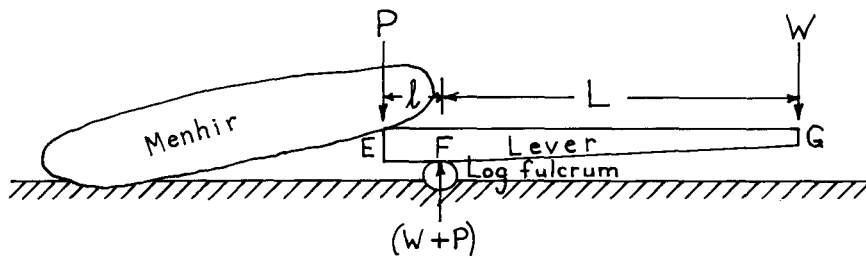
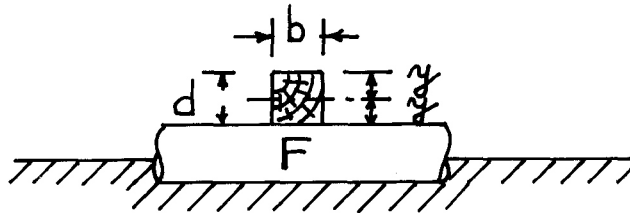

Fig. 1
Fig. 2
The stone is shown on the left of figure 1. Here the end E of the wooden lever EFG is under the end of the stone. The lever EFG rests on the fulcrum F which we assume to be a large log lying on the ground. By pressing down at G the stone end is raised, but we must estimate if the lever is strong enough. We take it to be of rectangular cross section b ft wide and d ft deep (fig. 2). The vertical force P from the stone may be greater at one end of the stone than half the weight. The greatest bending moment (M) on the lever is $P \times l$, where l is the length projecting beyond the fulcrum F.